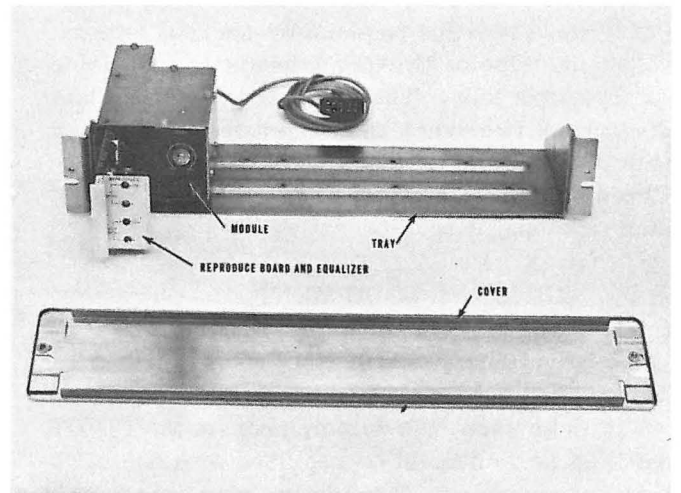

Fig. 1-4. Reproduce Electronic Module
1.4 REPRODUCE ELECTRONIC MODULE (Figure 1-4)